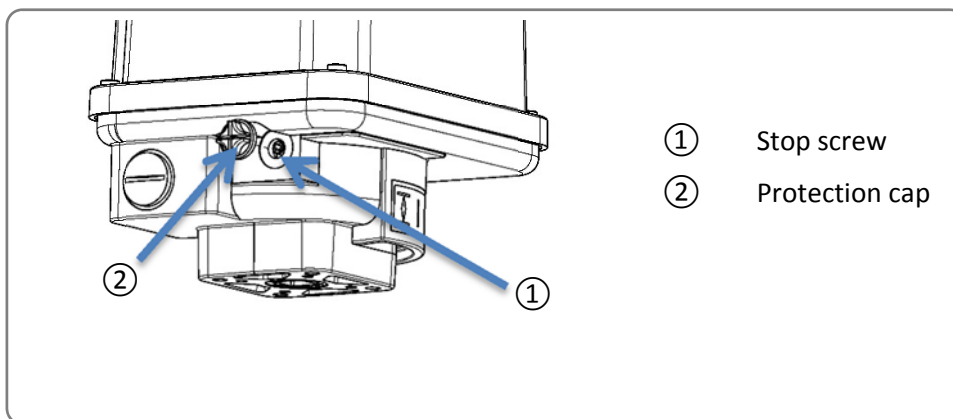

Figure 5: Mechanical stop
- Remove the protection cap (Figure 5; Pos. 2) from the stop screw.
- Turn stop screw for closed position (Figure 5, Pos. 1) finger tight, then a half turn back.